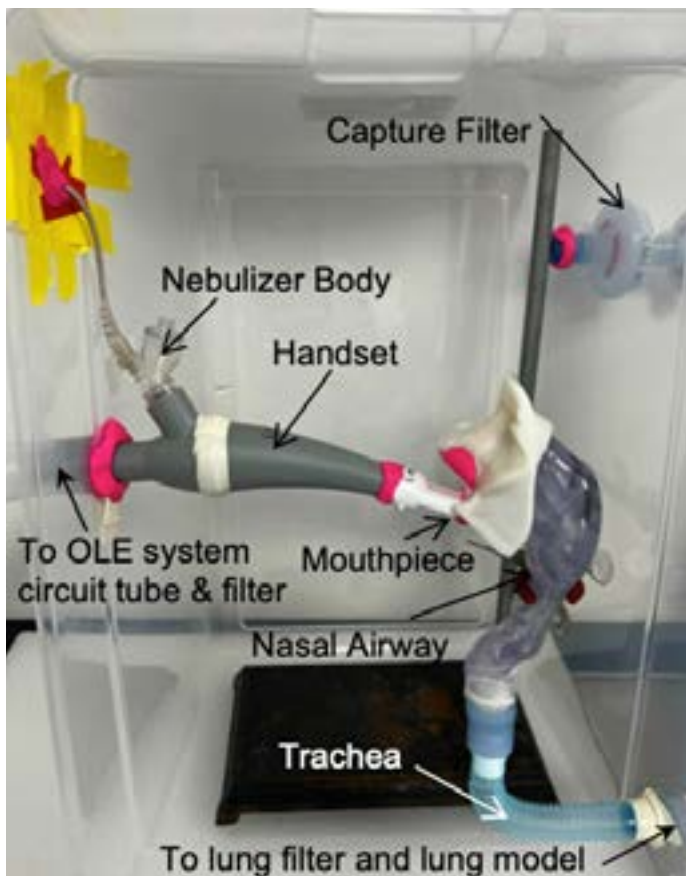

Figure 2. Experiment setup
A spontaneous breathing adult lung model, ALS 5000 (Ingmar Medical, USA,) was configured with 12 breaths/ min frequency, tidal volume of 700 mL, compliance of 100 mL/cm H₂O and resistance of 10 cm H₂O/L/s. A 3D-printed adult upper airway nasotracheal (NT) cast was attached to a simulated trachea and lung model. Each OLE system's proprietary handset was attached to the mouthpiece and inserted into the oral opening of the upper airway model, and the nostrils were covered to minimize the leak from the nose (see Figure 2). A filter was
attached between the tracheal outlet and the lung model to capture inhaled aerosol at the distal trachea and quantify the inhaled lung dose. The handset, nebulizer, mouthpiece, nasal airway, and trachea were placed into a sealed plethysmograph box (see Figure 2). A filter was attached to a vacuum toward the top of the plethysmograph box to capture fugitive aerosols that leaked out of the OLE system during therapy.